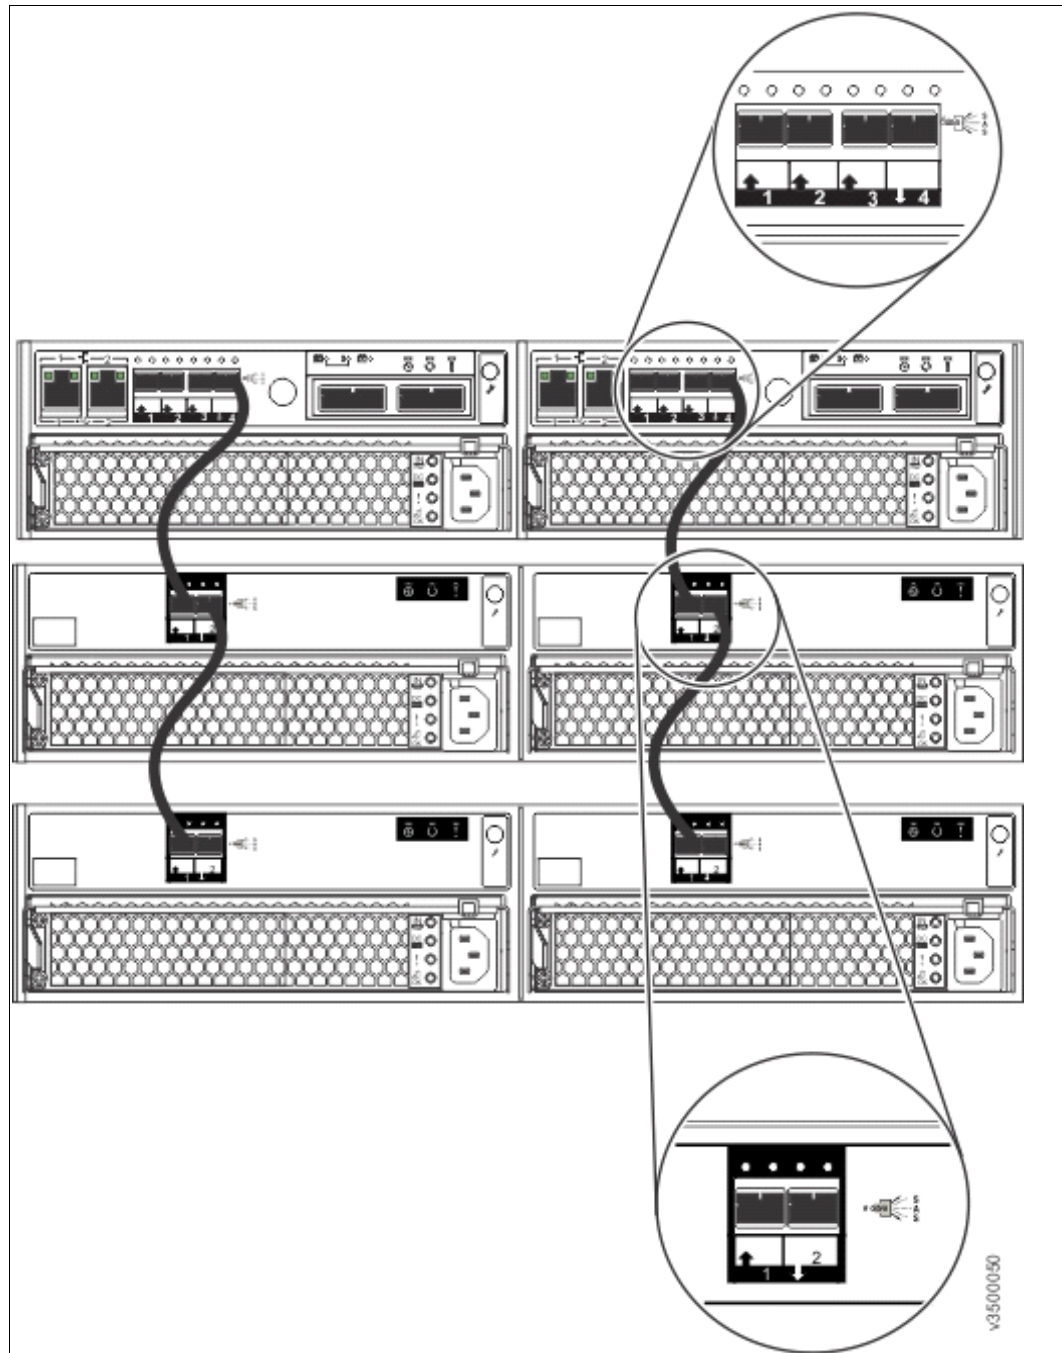

Figure 2-1 Connecting the SAS cables example
- One single 1-, 3-, or 6-meter SAS cable per expansion enclosure is required. The length of the cables depends on the physical rack location they are installed in relative to the control enclosure or other expansion enclosures. Locate the control enclosure so that up to four enclosures can be located below, as shown in Figure 2-1.